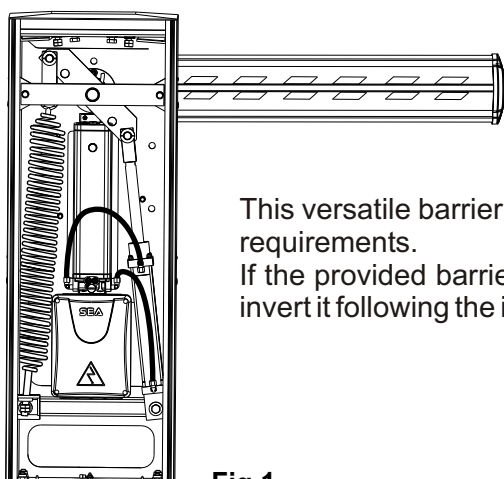

Fig.1
N.B.: The operator comes as shown in Fig.1 (Closing on the right hand side).
Barrier with right hand closing (Fig.1)